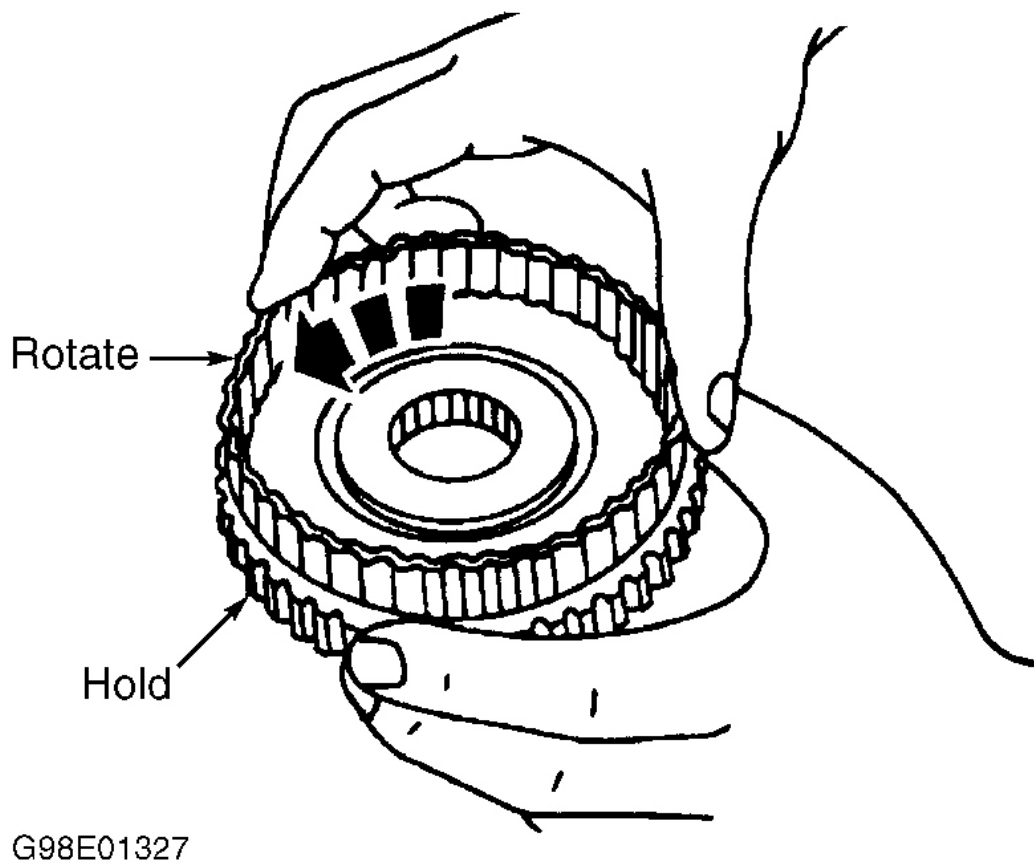

Fig. 24: Identifying One-Way (Sprag) Clutch Rotation
2. Install one-way clutch into outer race by turning counterclockwise. Ensure one-way clutch turns counterclockwise only (facing upward). See **Fig. 24**. Install primary sun gear into 2-4 band drum, and install a NEW primary sun gear retaining ring.